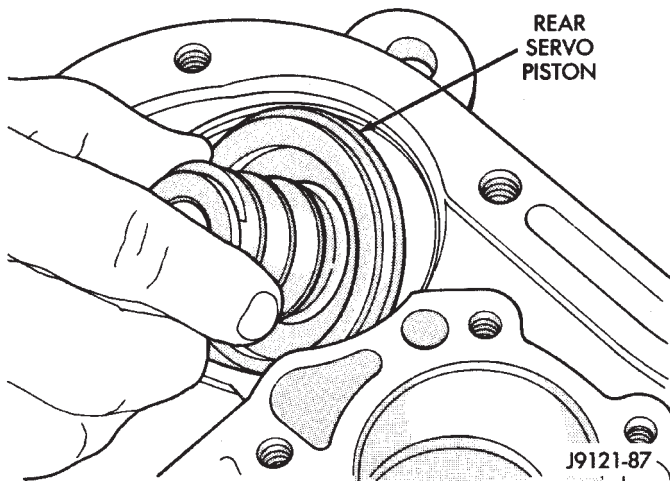

Fig. 129 Installing Rear Servo Piston—46RH
(1) Lubricate rear servo piston seal with petroleum jelly, or Door Eze. Lubricate servo bore in case with transmission fluid.
(2) Install rear servo piston in case. Position piston at slight angle to bore and insert piston with twisting motion (Fig. 129).